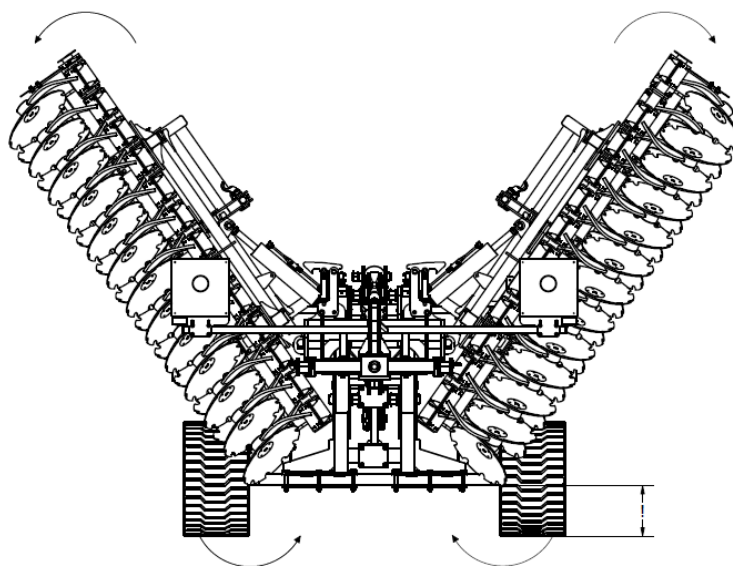

Figure 11a Machine opening sequence: opening the machine with special attention to the height of the arm ends from the ground.
4. When opening the machine's wing arms, ensure that the ends of the arms are at a sufficient height to prevent them from snagging on the ground (Fig. 11a).